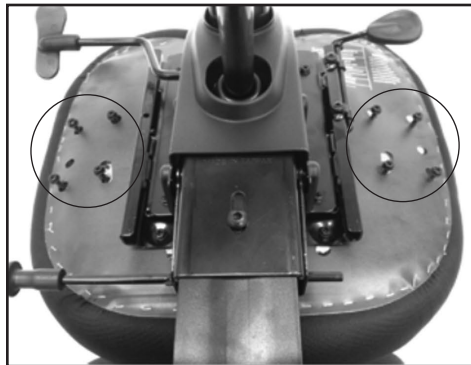

Figure 1
4. Remove right or left arm mounting bolts from chair bottom (Figures 1 & 2).